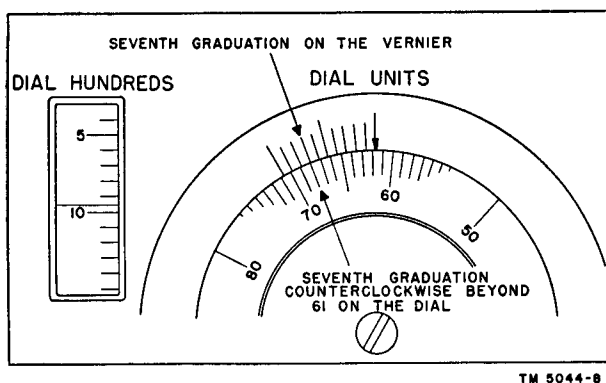

Figure 7. Frequency Meter TS-174B/U, main tuning dial.
(1) Turn the tuning dial until the proper hundreds graduation is directly under the line marked on the window.
- (2) From this point, turn the tuning dial clockwise until the *tens and units graduation* is directly under the index.
- (3) Continue turning very slowly. Stop at the point where the tenths unit desired, as read from the *vernier* (counting counterclockwise from the index), coincides directly with a unit on the dial. Figure 7 shows the vernier set at .7. Note that, between these two points (the index and vernier readings), there are a similar number of graduations (seven) on the dial.
- (1) *Hundreds scale.* The number above the horizontal line on the window is the hundreds reading (9 in fig. 7).
- (2) *Tens and units scale.* The number to the right of the index represents the tens and unit digits (61 in fig. 7).
- (3) *Vernier scale.* The point where the vernier graduation coincides directly
with any dial graduation represents the tenths unit (.7 in fig. 7). The complete reading of the example in figure 7 is 961.7.